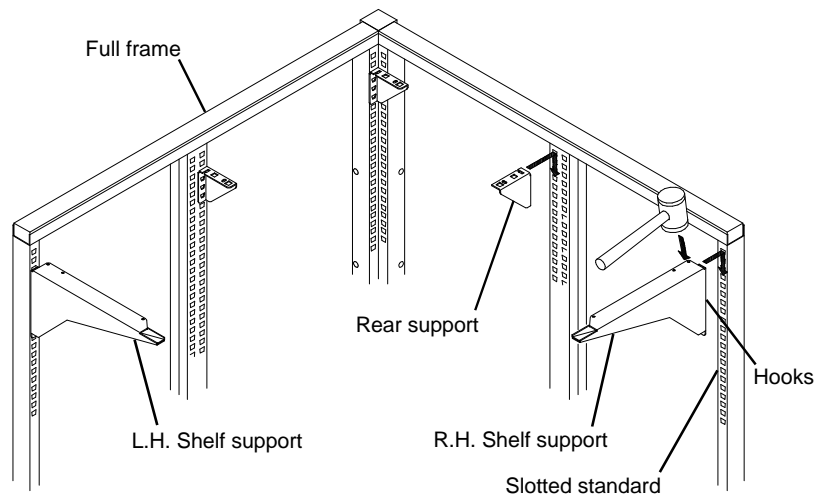

Figure 1
1. Determine the location of the **Corner Laminate Hook-on Shelf**. Position the **Shelf Supports** as shown in **Figure 1**. Insert the hooks on the back of the supports into the slotted standards and push down.
2. Install the **Rear Supports**. Ensure that they are located at the same height as the right hand and left hand supports. See **Figure 1**.